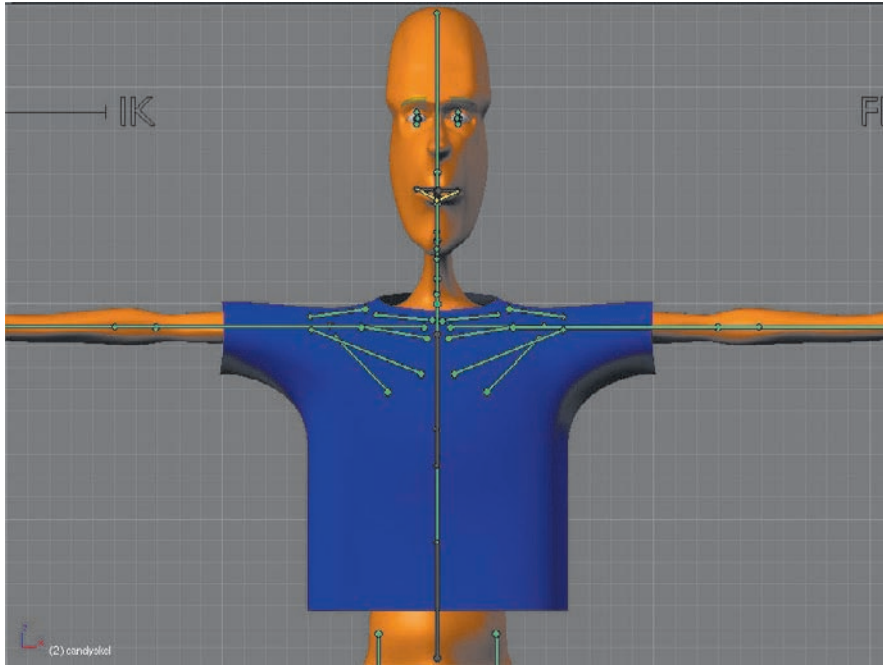
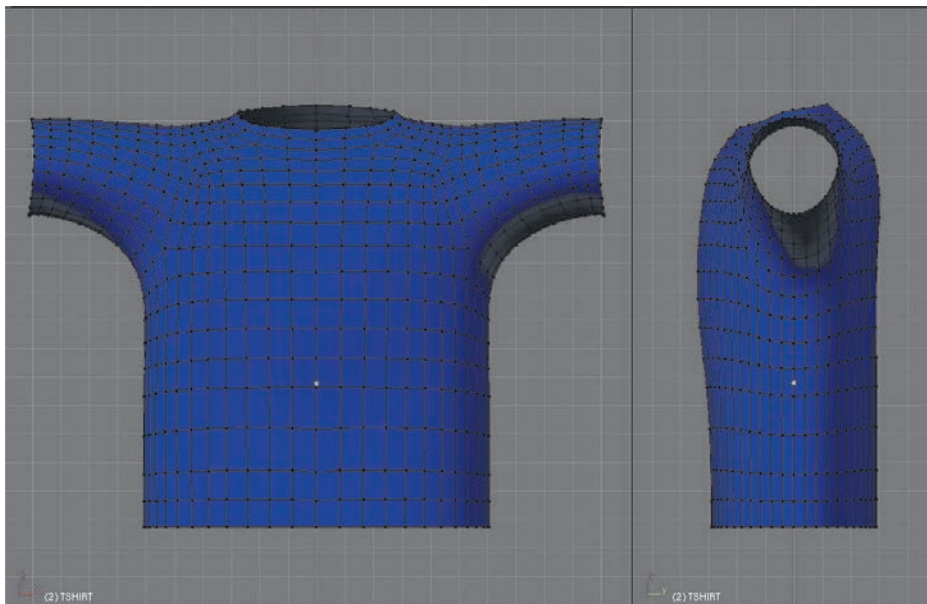

Figure 3.61 Mancandy with shirt
Figure 3.62 Shirt mesh
2. Model the T-shirt to conform to Mancandy's body, as shown in Figure 3.61. The T-shirt mesh is a separate object. Be sure that there is a little bit of space between the shirt and the surface of the Mancandy mesh. I won't go through all the steps of modeling the shirt here, but if you've followed the Captain Blender modeling tutorial from *Introducing Character Animation with Blender*, your modeling skills should be up to the task. I used a Mirror modifier to do the modeling, and then applied it when I finished. The geometry of the shirt I'm using is shown in Figure 3.62. You can also find a copy of the T-shirt mesh on the CD that accompanies this book.